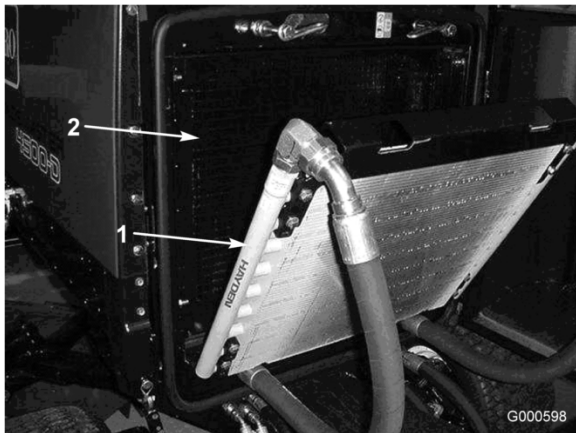

Figure 53
3. Pivot the oil cooler rearward. Clean both sides of the oil cooler and radiator area (Figure 53) thoroughly with compressed air.